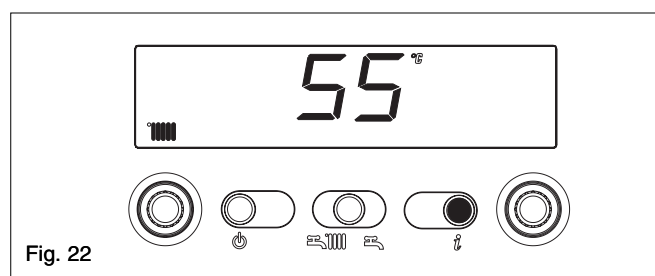

Fig. 22
- Info 3** CH temperature set (fig. 22)